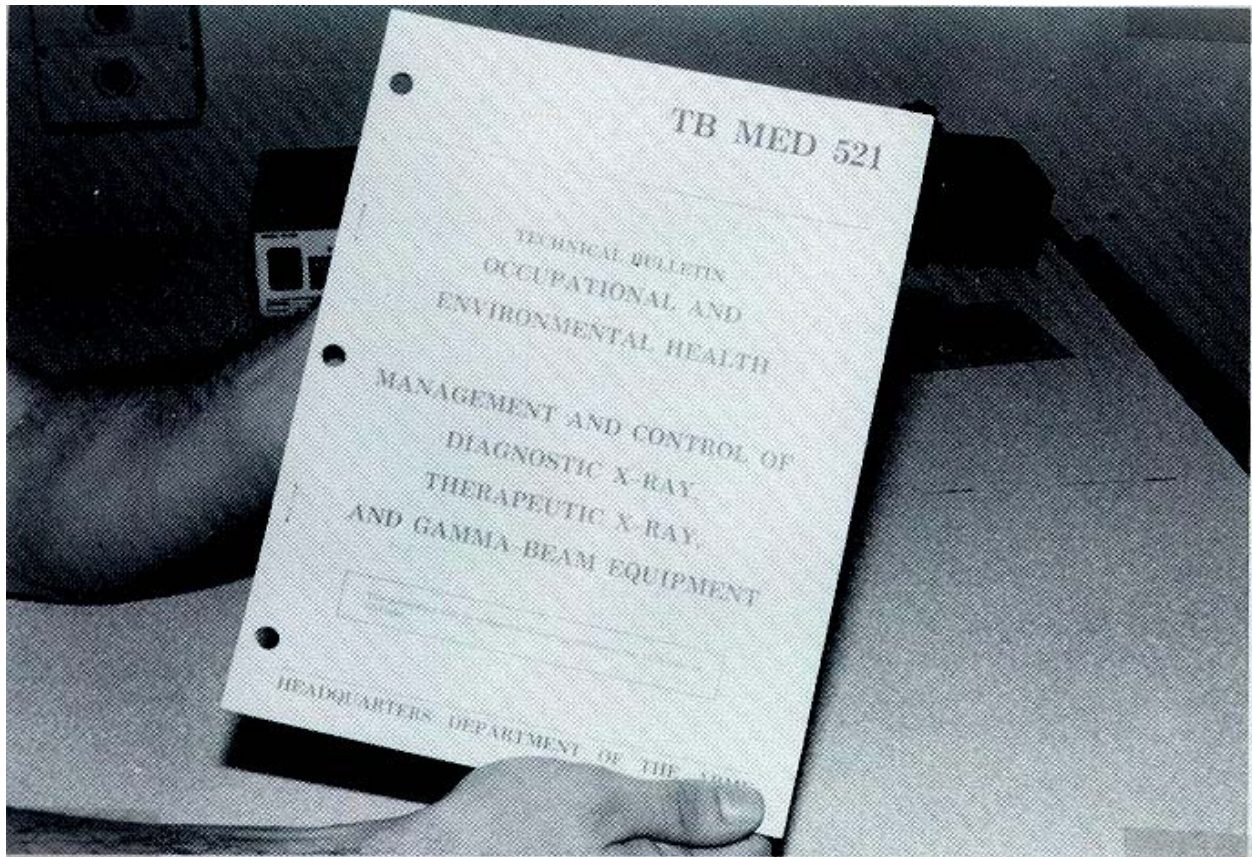

Figure 2-1. Technical Bulletin (TB) MED 521.
a. The Inspector General (IG) appoints a team for periodic inspections using Technical Bulletin (TB) Medical (MED) 521 for guidelines (see figure 2-1).